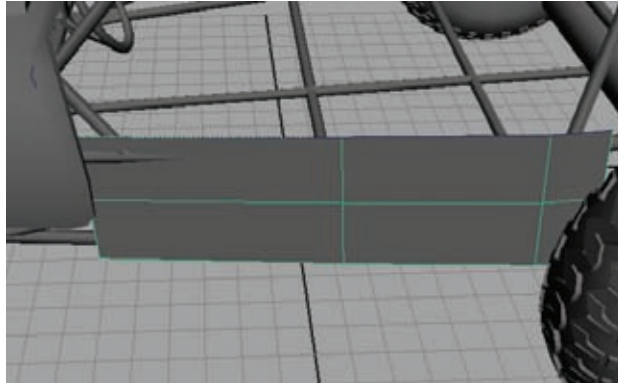

Figure 4.33
2. Duplicate the curve and move it up to the top of the buggy's side frame. Loft (Surfaces → Loft) the two curves, creating a surface in between (Figure 4.33). Don't worry if it's clipping through the frame; you're about to fix that.
3. If the Loft command didn't result in having an edge cutting through the middle of the panel horizontally (as in the prior Figure 4.33), use the Cut Faces tool from the Edit Mesh menu to make one.